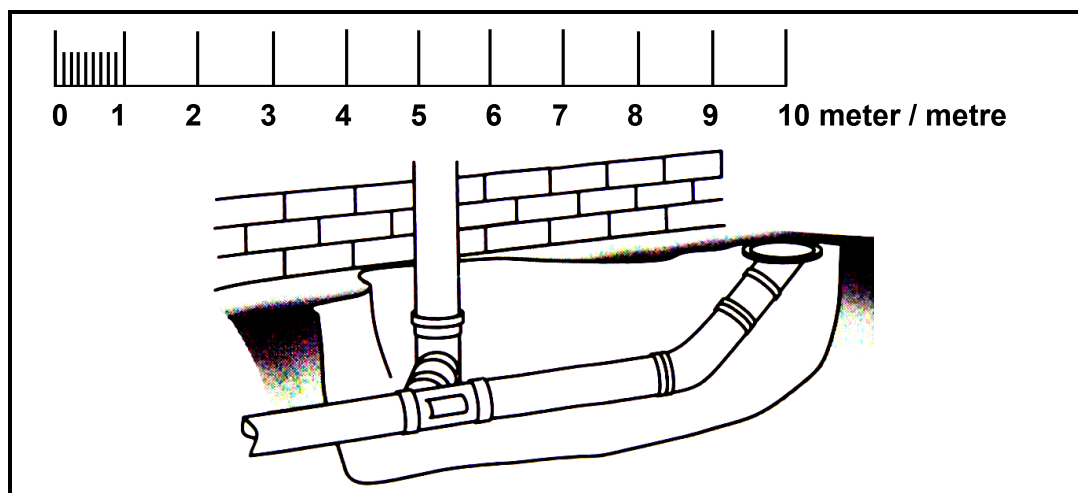

FIGURE 5.12
- 5.12 FIGURE 5.12 shows a part of the layout of a drainage system. Use the graphic scale and calculate the following quantities for the drainage system.